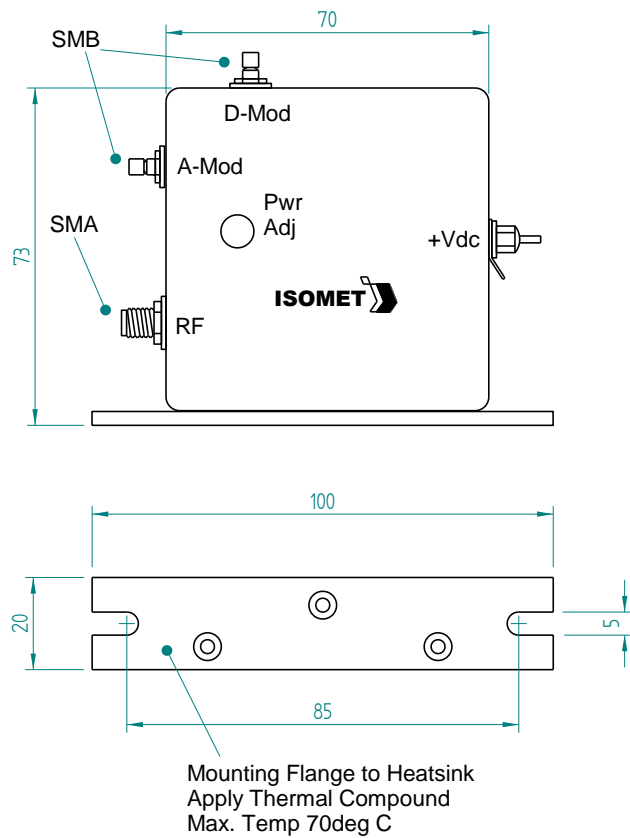

Figure 1: Driver Installation
- 3.1 Install the Driver on a heat sink as shown in figure 1. Use heat conducting compound between the Driver and mounting face and the heat sink.
- 3.2 With no d-c power applied, connect the positive (+) DC to the center terminal of the feed-thru terminal as shown in figure 1. Connect the 0V or ground connection to the earth tab.
- 3.6 If fitted, remove the PWR ADJ snap-in plugs from the driver case (see fig 1).